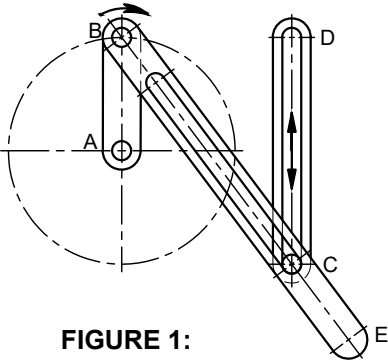

FIGURE 1:
- Figure 1 shows the detail of a rotating crank AB, connecting rod BE and a fixed vertical groove CD.